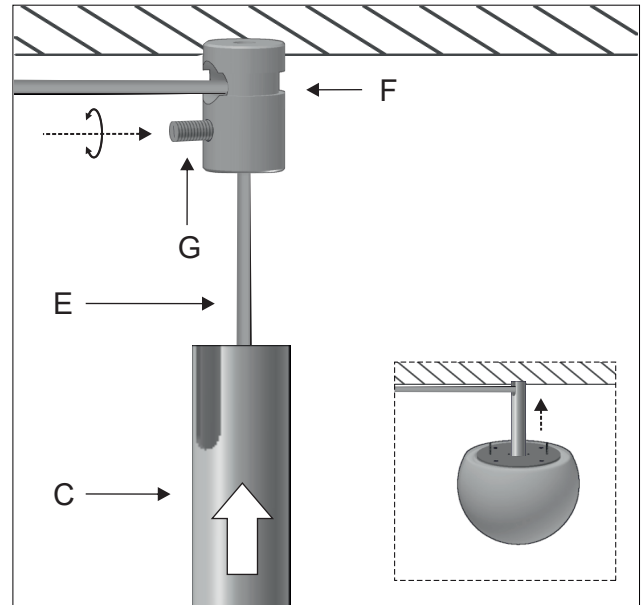

Figure 5
5 - Unscrew the stud (G) from the cable holder without removing it. Insert the shade cable (E) through the bottom of the cable holder (F) and pull it through the side hole. Make sure that the tube groove (C) points towards the mounting bracket. Figure 5